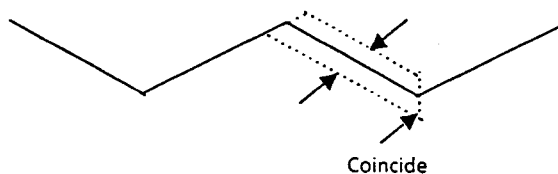

Fig. 4-24
- Adjust VR27 so that the offset of the end of triangle waveform becomes $0\text{ V} \pm 0.01\text{ V}$. (Fig. 4-24)